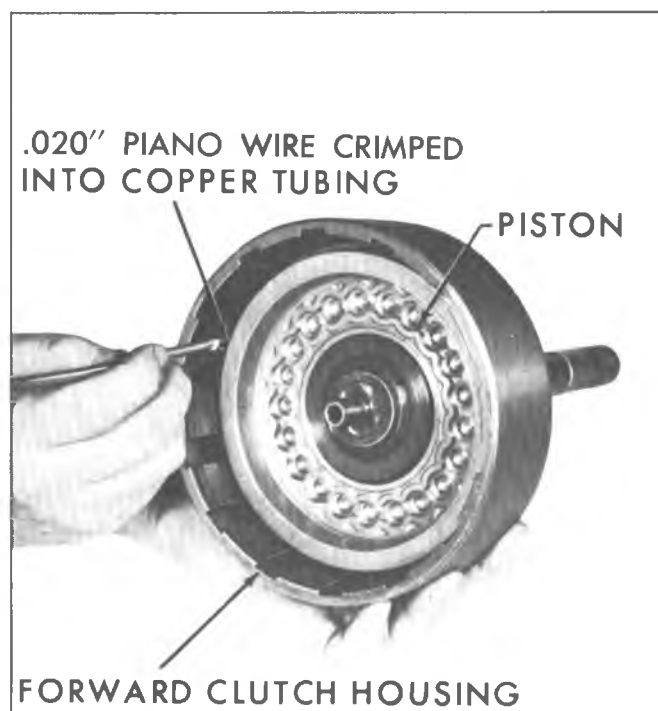

Fig. 83M--Installing Forward Clutch Piston
2. Install the forward clutch piston assembly with the aid of a feeler gauge or a piece of .020" piano wire crimped into copper tubing (fig. 83M).
3. Install twenty-one (21) clutch return coil springs.